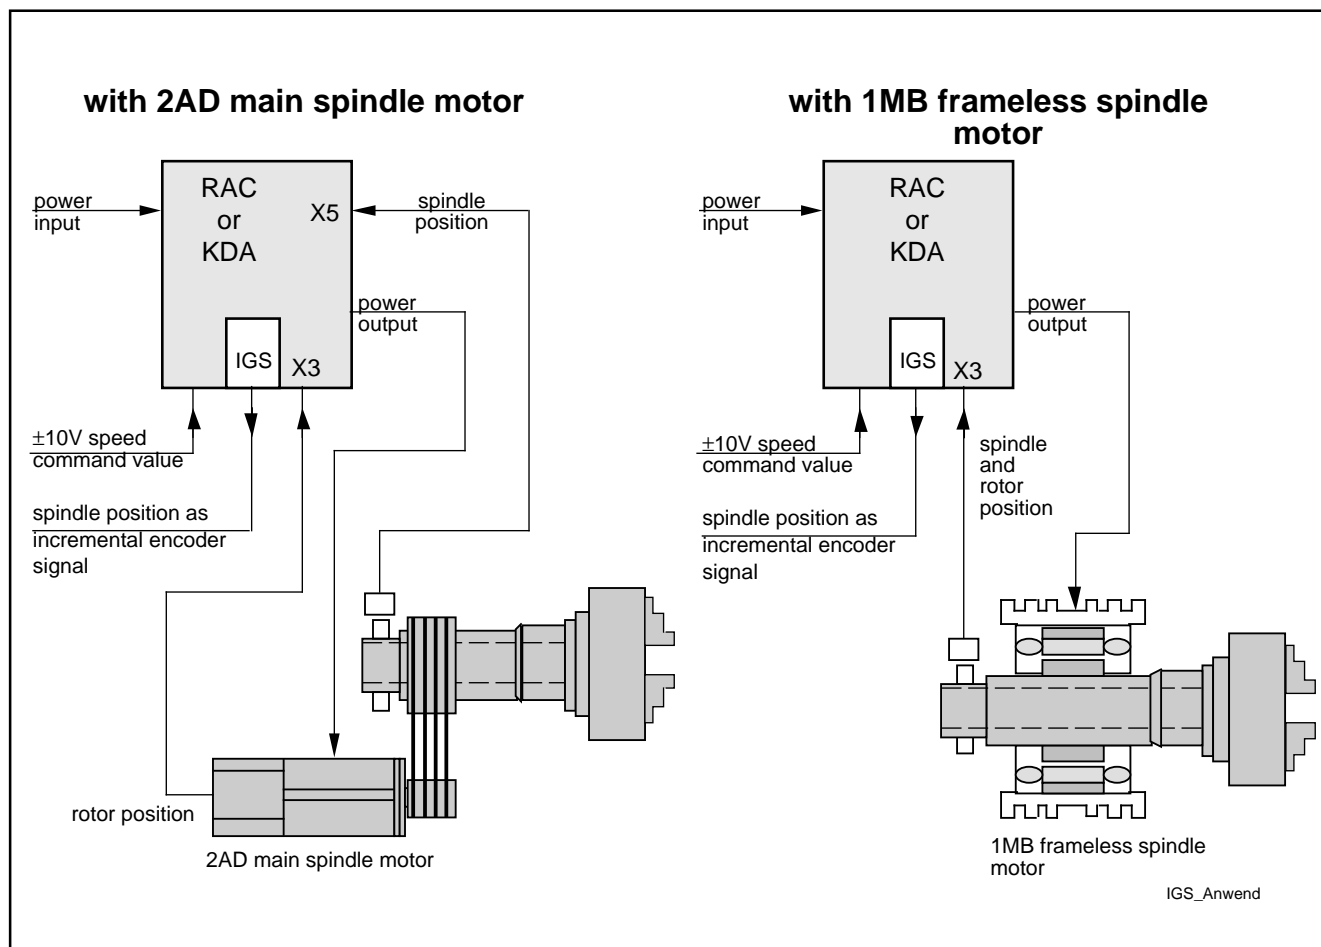

Figure 1: Principle of application with 2AD main and 1MB frameless spindle motor
Figure 1: Principle of application for AC main spindle drives as servo drives for high performance with indirect position measurement by detecting the incremental encoder signals from the "IGS option"
- A 0 I -	= application as per Figures 1 and 3
- A P I -	= application as per Figures 1